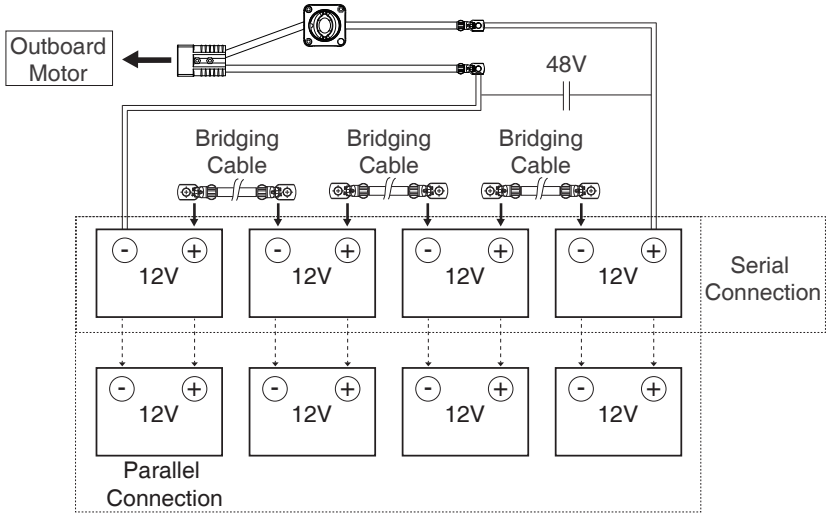

Figure 4-3
When connecting four 12V batteries in series to make a 48V battery set to supply power for NAVY 6.0, use bridging cables to connect batteries in series (Figure 4-3). Make sure to connect the main switch cable to battery positive terminal and the other cable to battery negative terminal.
-  Never reverse the polarity. Please pay more attention when connecting batteries in series and/or in parallel configuration. Always double check by referring to Figure 4-3.